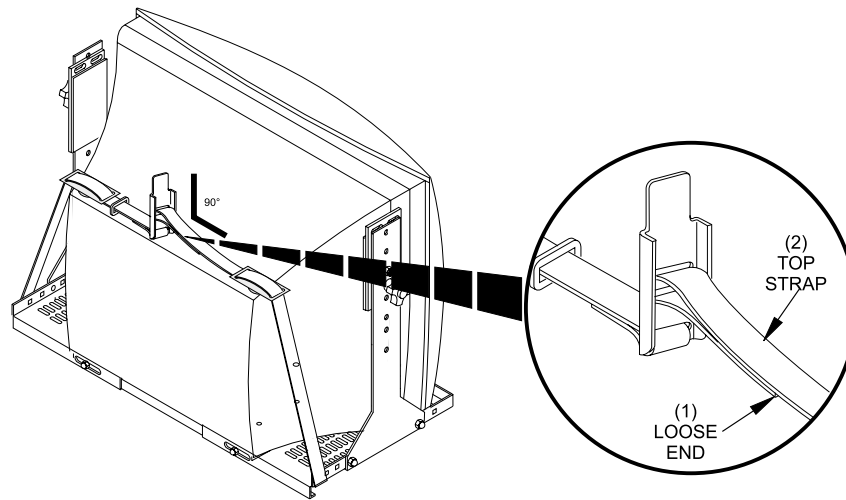

Figure 4. Remove Slack In Strap
4. Lead loose end of strap across monitor underneath the top strap. Pull loose end of strap to remove slack. Cut off excess material leaving 5"-6" (127 mm-152 mm) of extra strap. Refer to *Figure 4*.